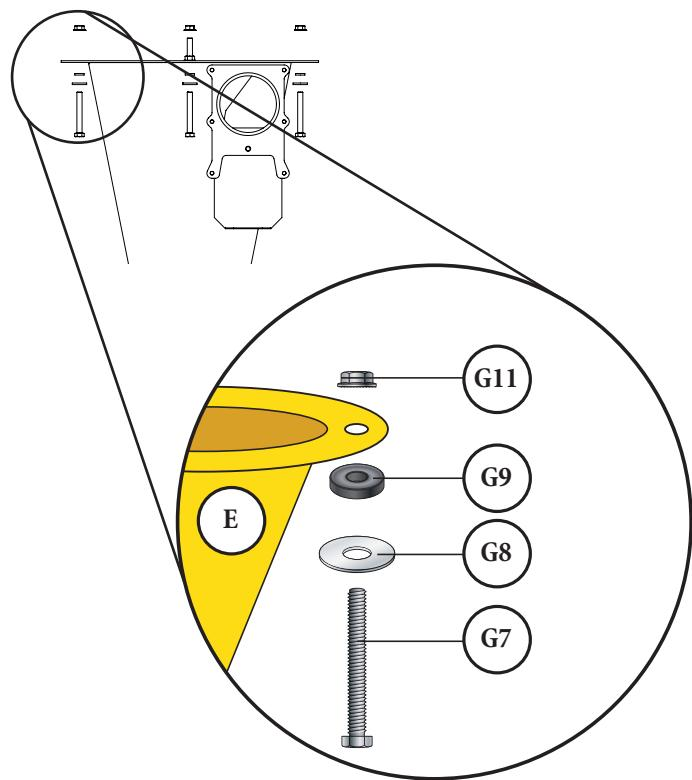

FIG. 13
14 Install the three remaining Hex Head Bolts (G7), Flat Washers (G8), Rubber Washers (G9), and Whiz-Lock Nuts (G11) to the three remaining holes in the Cyclone's (E) upper flange [FIG 13].